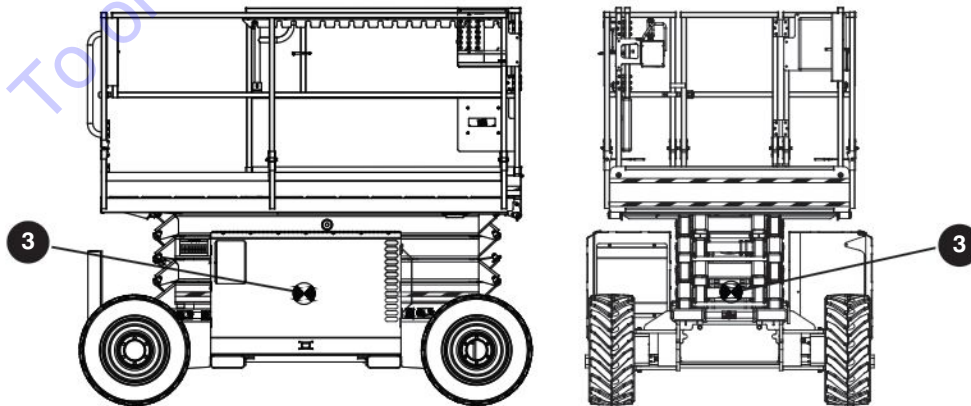

Figure 08 MEWP Center of Gravity
For the weight of the MEWP, refer to section 7.3. Horizontally, the **center of gravity** ③ is approximately in the middle of the MEWP, front to back and side to side. Refer to Figure 08. Vertically, the center of gravity is approximately a small distance above the chassis.